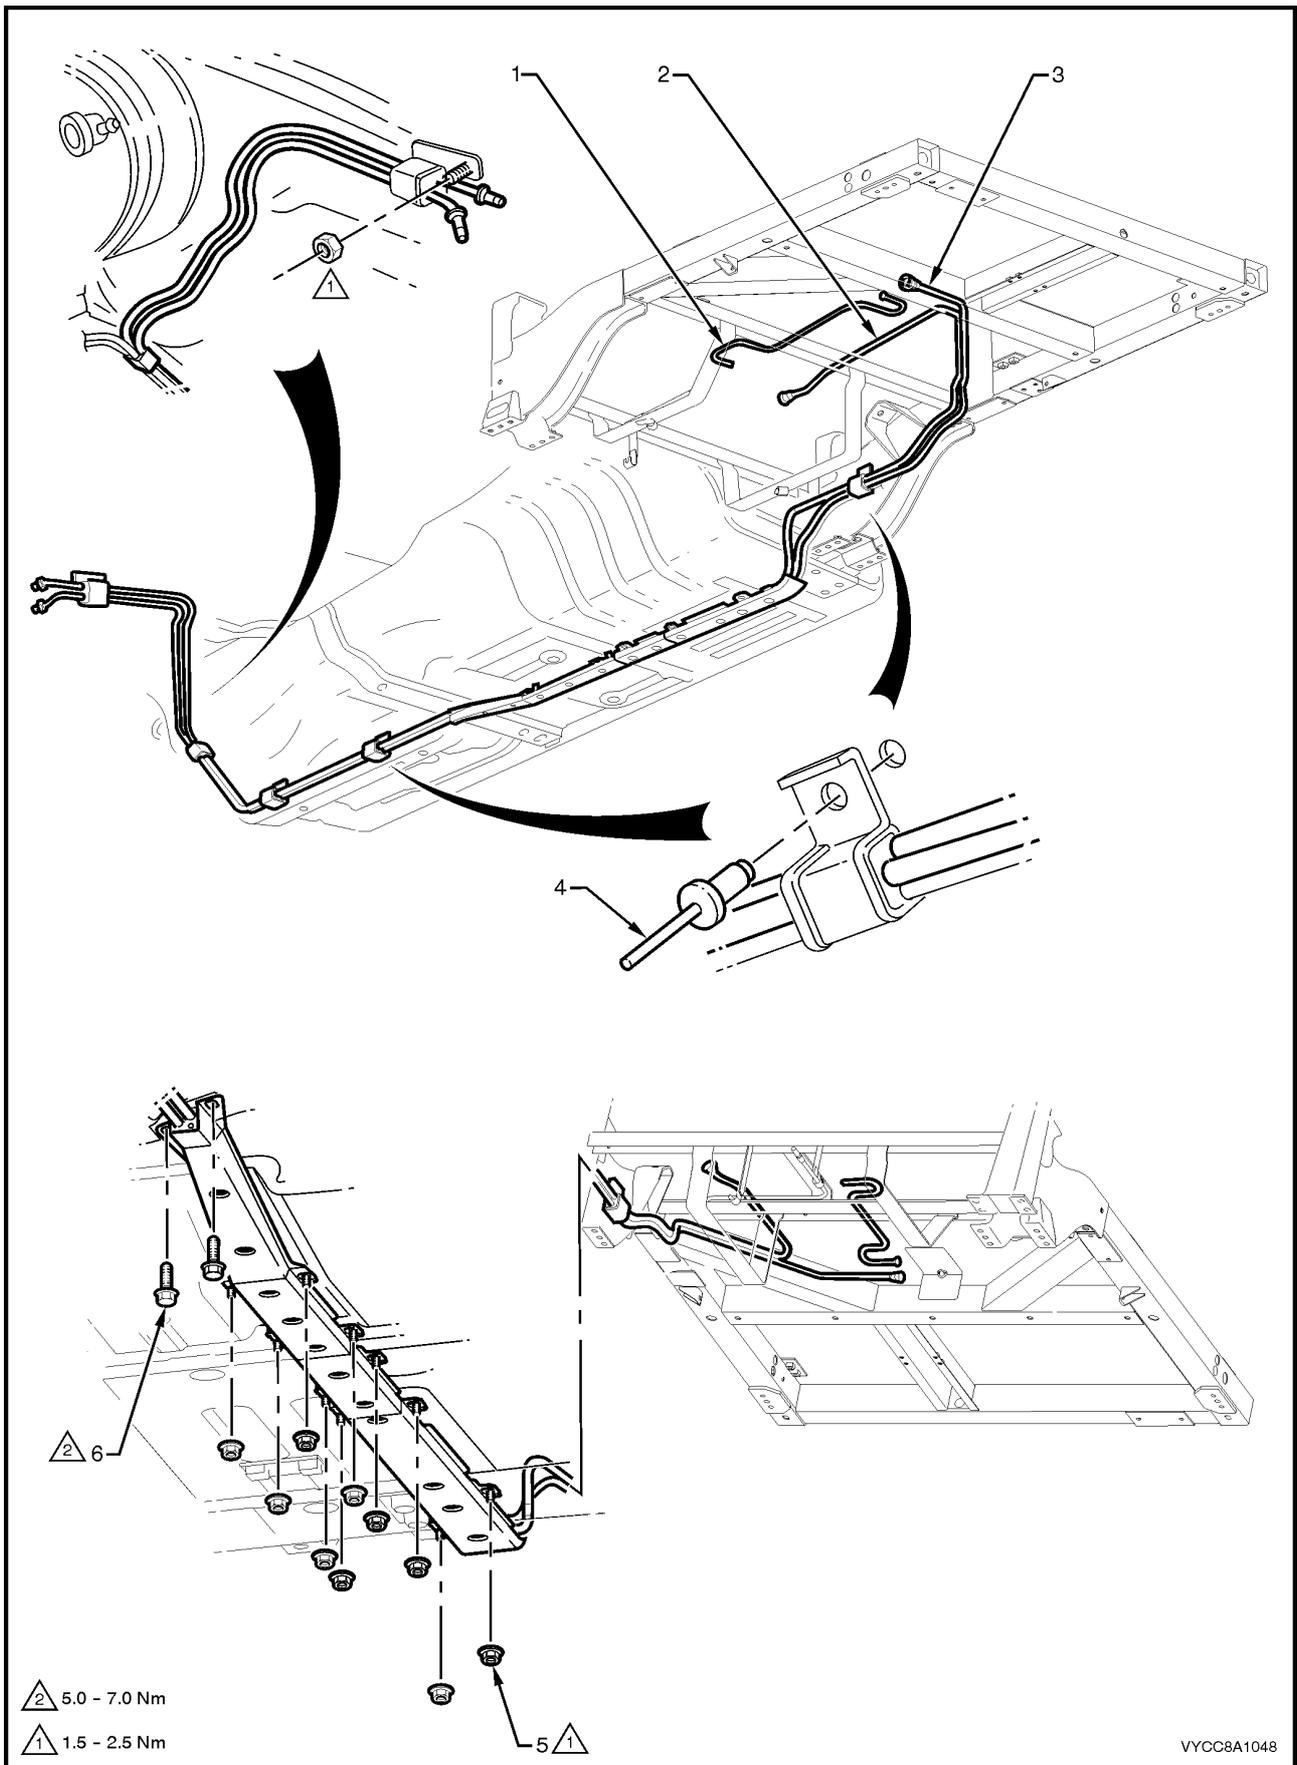

Figure 8A1 - 217
- 5 If required, remove the stone guards and fuel pipes. Use the following illustration showing the fuel pipe layout and location of other items relating to the fuel system as a guide, refer to Figure 8A1 – 217.